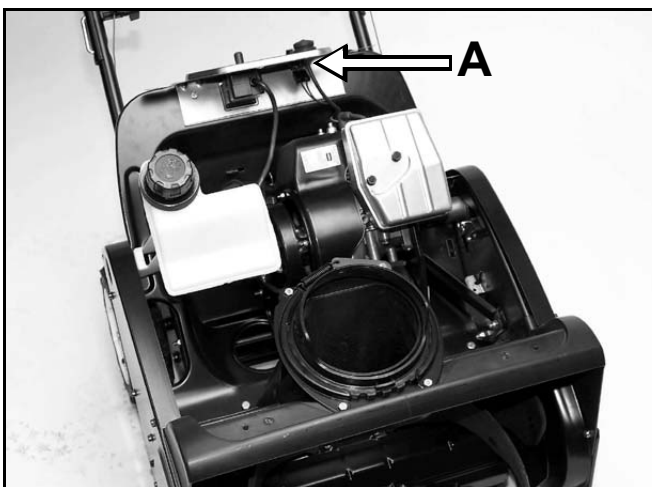

Figure 20
6. Disconnect the primer line from the primer bulb and the wires from the ignition switch (Figure 20).